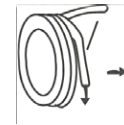

Figure 5.2
- The winding angle should be less than 90° (Fig. 5.2).